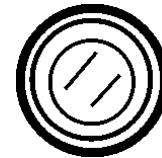

Figure 21. Start Pushbutton Switch
4. Press the generator's pushbutton start switch (Figure 21) and listen for the engine to start.